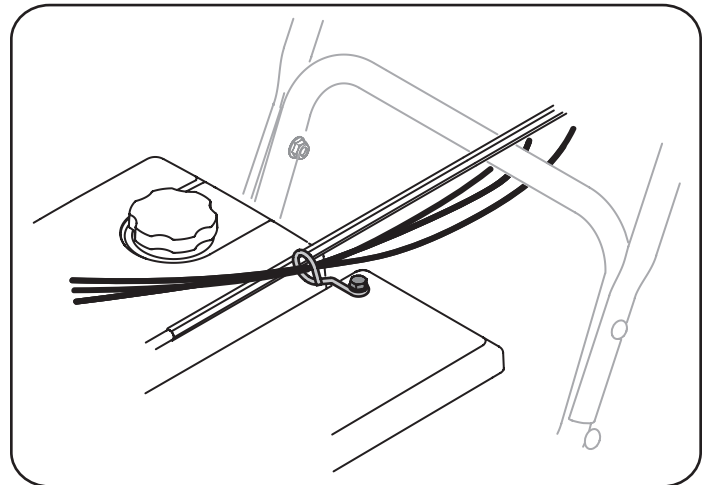

Figure 40
1. Locate cable guide on top of engine and ensure cable(s) are properly routed through the cable guide. See Figure 40.